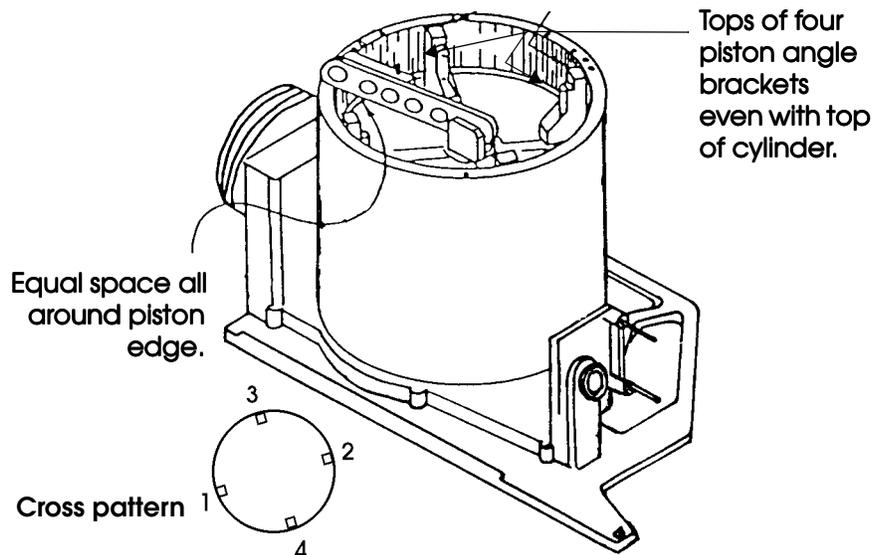

Figure 4.12
4. Position the piston in the cylinder so that the tops of all four piston angle brackets are even with the top of the cylinder. Turn the bottom set screw in one angle bracket until the plastic piston guide just touches the cylinder wall. Turn the top set screw so that the top of the guide also just touches. Then turn the bottom set screw again to take up any slack. Using a cross pattern, do this with all four piston angle brackets, making sure that the tops of all four brackets are even with the top of the cylinder and that the piston remains centered within the cylinder. (Figure 4.12)